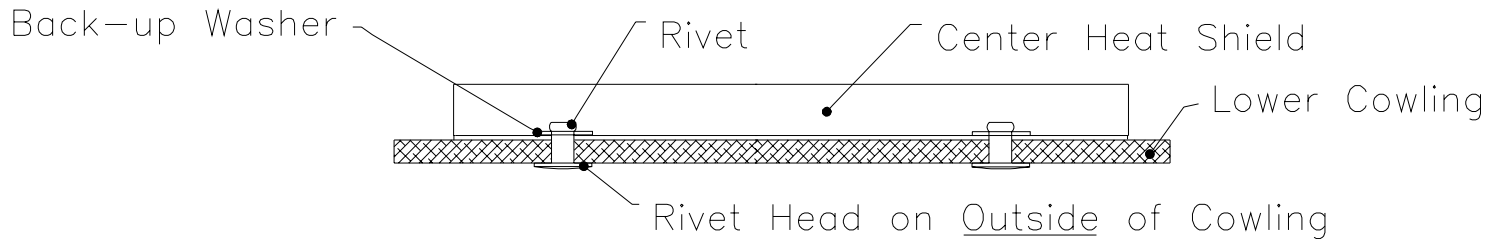

Figure 3
- 10.8** Install the center heat shield with Rivets as shown in Figure 3.